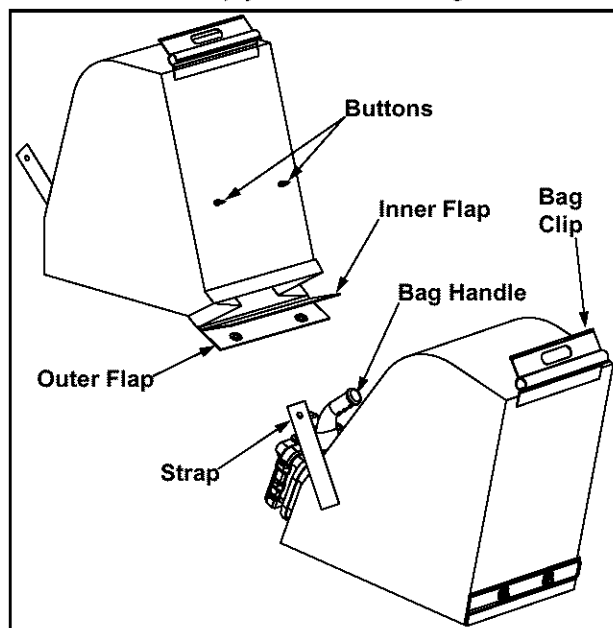

Figure 8
- Unhook bag straps from the lower handle and unsnap bag clip from top of the lower handle. See Figure 8.
- Twist the two buttons on the back of the bag to unlock and empty contents. See Figure 8.